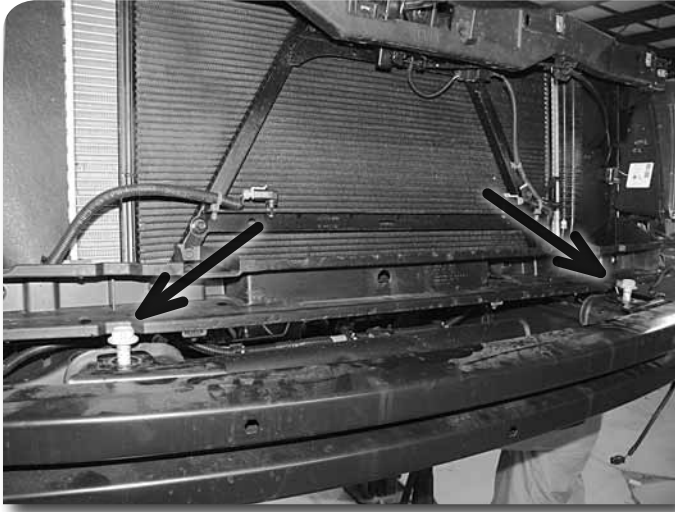

Figure 7
15. Remove 2 bolts indicated that hold the steel bumper to frame rails **Figure 7** and remove steel bumper from vehicle.